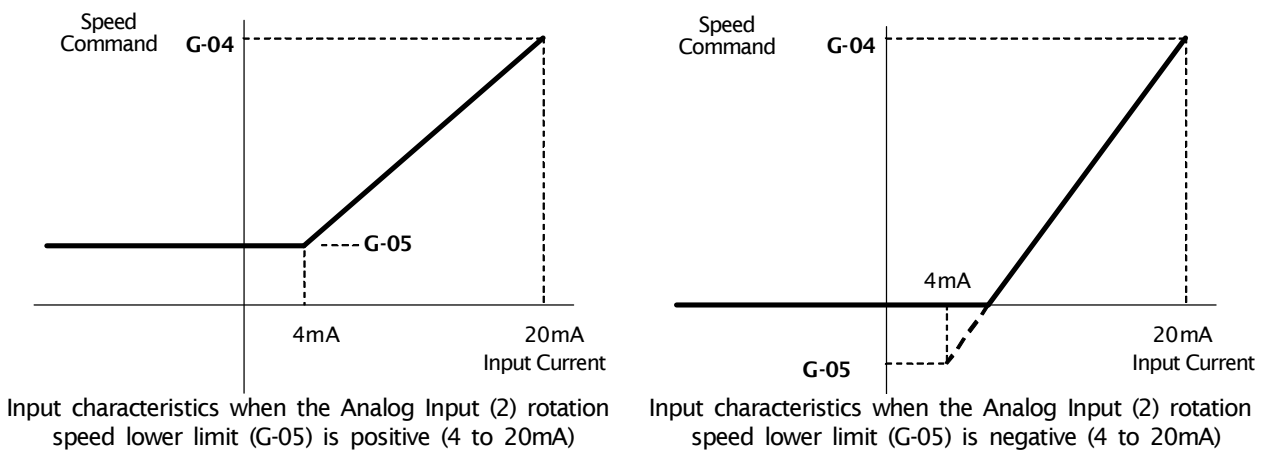

Figure 6.4 Speed command characteristics with current input of 4 to 20m
The rotation speed command value is set as the Analog Input (2) rotation speed lower limit (G-05) when the input is 4mA. When the input is 20mA, it is set as the Analog Input (2) rotation speed upper limit (G-04). However, this will be set to “0” if the Analog Input (2) rotation speed lower limit (G-05) has a negative value. (Figure 6.4) If the minimum rotation speed (A-01) is other than “0”, the rotation speed command absolute value is controlled to prevent falling below the minimum speed. As a speed command, this only allows forward operation. For reverse operation, a reverse operation command should be used.